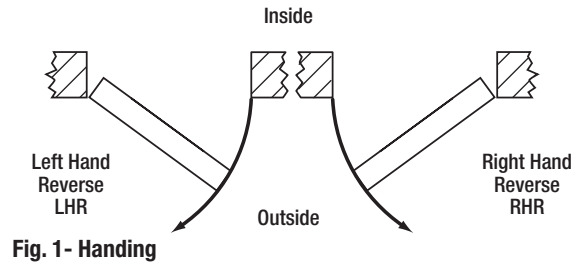

Fig. 1- Handing
1. Verify Hand and Bevel of Door -(Figure 1)